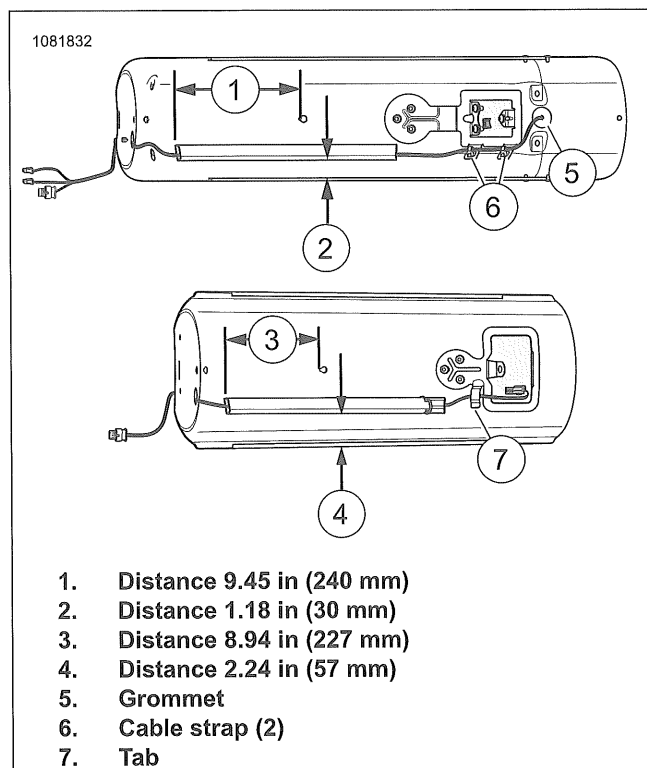
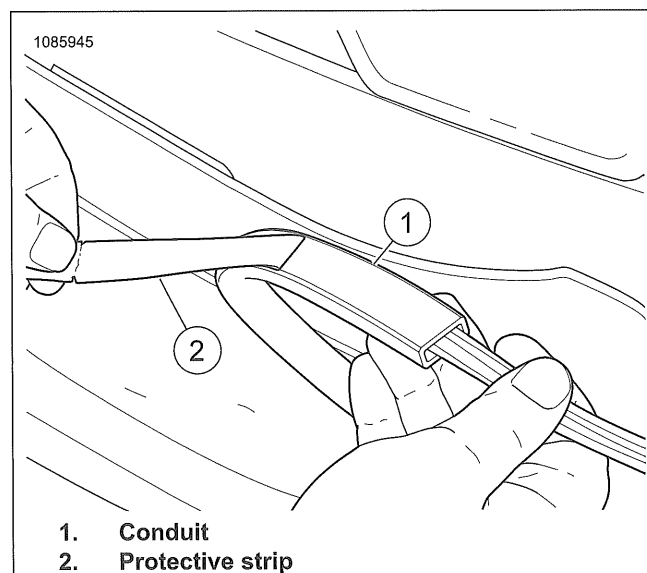
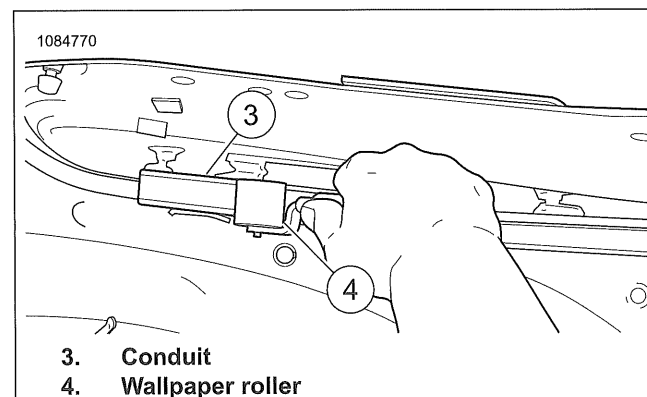

Figure 3-123. Fender Conduit Placement
Figure 3-124. Removing Protective Strip From Conduit
Figure 3-125. Purging Air Between Adhesive and Fender
1. See Figure 3-123, Figure 3-124, Figure 3-125. Install wiring conduit.
- c. See Figure 3-124 and Figure 3-125. Remove the adhesive backing (2).
- d. Lightly position the conduit (1) in place.
- e. Using a wallpaper roller (4), roll along conduit (3) to purge the air from between adhesive and fender.